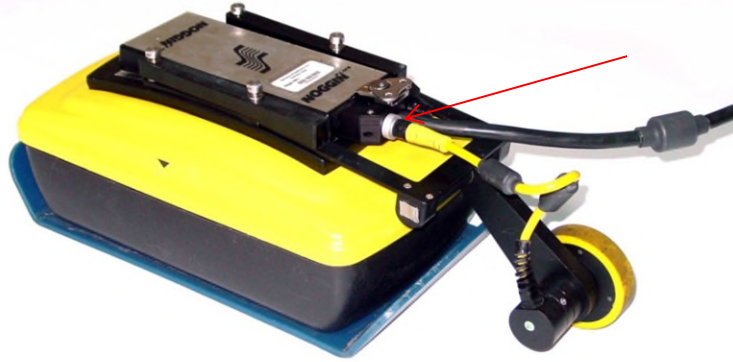

Figure 2-58: Connecting yellow odometer cable to main cable receptacle
3. Connect the yellow odometer cable to the round Noggin receptacle connector (Figure 2-58).